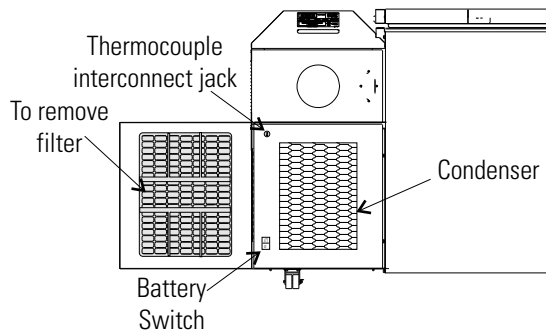

Figure 5-1. Component Locations
2. Locate the grille on the door. See Figures 5-1 and 5-2. Grasp the middle of the grille material and gently pull out to remove.
1. Open the lower panel door by grasping the handle. See Figures 5-1 and 5-2.
3. Turn off the battery switch (O). See Figures 5-1 and 5-2.
2. Locate the battery power switch (Figure 5-1). Turn the battery power switch to the Off position (O).
4. Remove the three nuts securing the battery bracket. See Figure 5-1.
All Models except 3 cu ft (Figure 5-1):